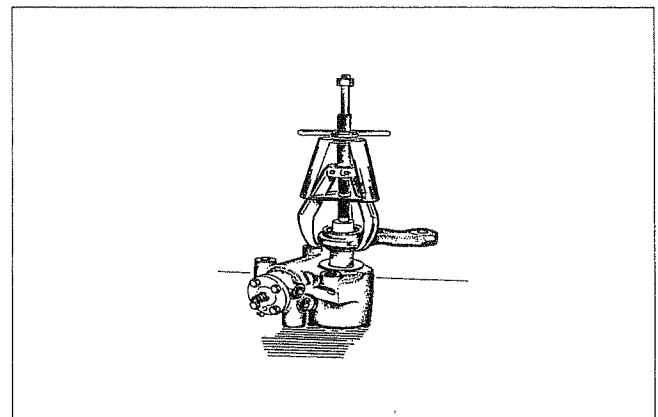

Figure 26
3. Remove the Pitman arm (Figure 26).